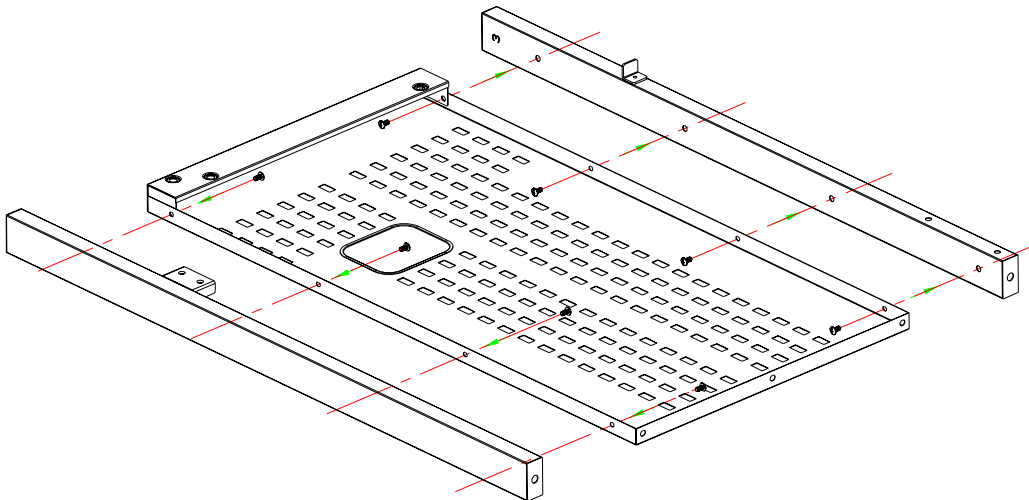

Fig.2
1. To attach left panel, align left leg holes with holes on left panel (marked "L") as shown in Fig.2.
2. Attach left-front leg (marked "Left Front") and left-back leg (marked "Left Back") to left panel with eight (8) M5 x 10 screws as shown in Fig.2.